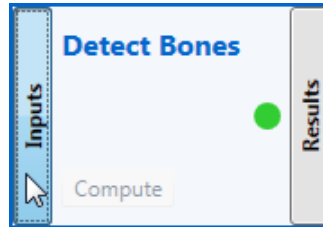

Figure 27. Click the Inputs button
- 2 Click the **Inputs** button on the step box. See Figure 27.